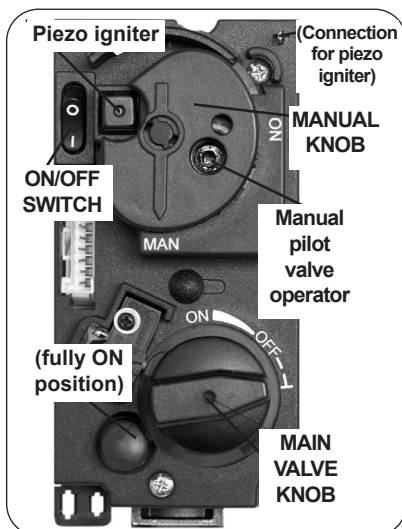

Fig. 23-1 Combination control
2. Locate the valve on the unit. Turn the control knob clockwise ↻ to **OFF**, the manual knob clockwise ↻ to **MAN**, and place the ON/OFF switch in the **OFF (O)** position (Fig. 23-1).
5. Push the manual pilot valve operator **firmly and fully** in and hold. Hold a long-stem match/ long-necked butane lighter near the thermocouple to light the pilot. Continue to hold the knob in for about one (1) minute after the pilot is lit. Release the manual pilot valve operator. The pilot will remain lit. See Fig. 23-1 and 23-2. If it goes out, repeat steps 2-5.
1. Ensure the pilot is burning. Turn the manual knob counterclockwise ↺ to **ON**. Turn the control knob counterclockwise ↺ to **ON**. See Fig. 23-1. The valve will open and the burner will light.
To shut down the main burner (pilot will remain lit), turn the control knob clockwise ↻ to the fully OFF position (see Fig. 23-1).
To shut down the burner and pilot (total shutdown), turn the control knob clockwise ↻ to the fully OFF position, and place the ON/OFF switch in the **OFF (O)** position (see Fig. 23-1).